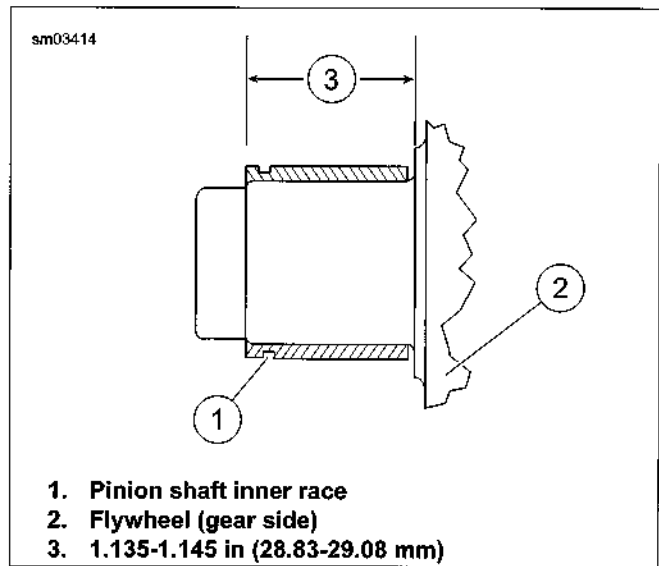

Figure 3-100. Inner Race Location
11. See Figure 3-100. Press **new** inner race on pinion shaft using shop-made tool. When the tool bottoms against the flywheel, the correct inner race location is automatically established. The **new** inner race must be machined to dimension based on the finished lapped ID of the outer race. Refer to Table 3-36.